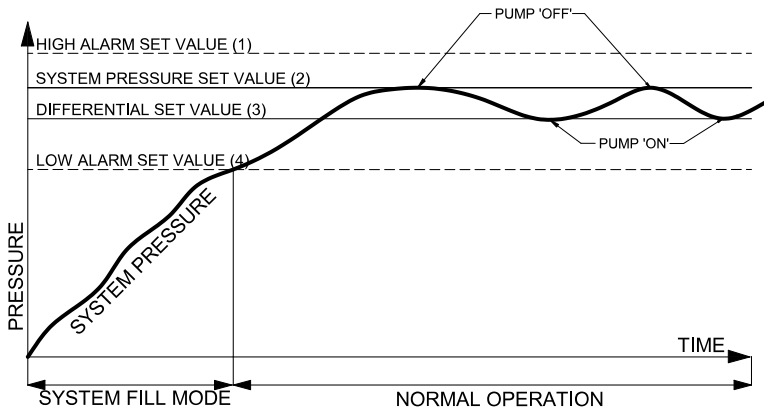

Fig. 20
<p>System pressure (2) see Fig. 20</p>	<p>Sets the required system pressure. Set in 0.1 bar increments up to the maximum set value for the CORE model. CORE Midi135 & COREMidi 230D, 3.5 bar max., CORE Midi150 & CORE Midi250, 4.1 bar max.</p>
<p>Differential pressure (3) see Fig. 20</p>	<p>Sets the pressure the CORE Midi will turn on at as the system pressure falls. Relative to the system pressure. Set in 0.05 bar increments below the System pressure (2), cannot be set above 0.1 bar below the System pressure (2).</p>
<p>Hi Alarm (1) see Fig. 20</p>	<p>Sets high system pressure alarm. Set in 0.05 bar increments above the System pressure (2). Cannot be set below System pressure + 0.05 bar. Alarm auto resets when system pressure is reduced below alarm level.</p>
<p>Lo Alarm (4) see Fig. 20</p>	<p>Sets low system pressure alarm. Set in 0.05 bar increments below the System pressure (2) - Differential pressure (3) - 0.05 bar. Alarm auto resets when system pressure is increased above alarm level</p>